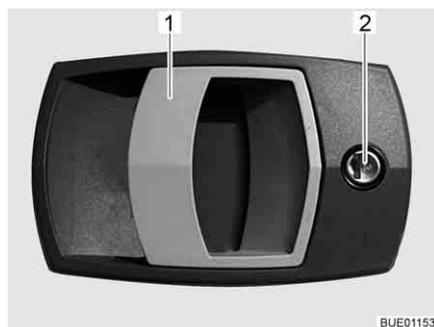

Fig. 31 Door lock of conversion door, outside
- Insert the key into locking cylinder (Fig. 31,2) and turn until the door lock is unlatched.
- Pull on the handle (Fig. 31,1). The door is open.
- Insert the key into locking cylinder (Fig. 31,2) and turn until the door lock is engaged.